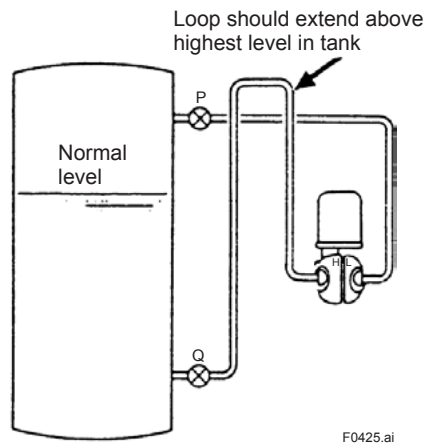

Figure 4.25 Self Purge (for Liquefied Gases)
- (3) Self Purge (Refer to Figure 4.25)